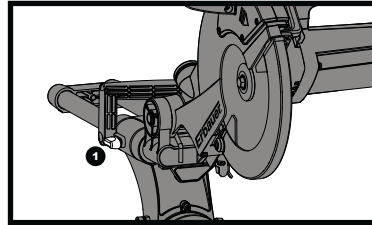

Fig 11
- 2) The slide carriage should be locked in position by tightening the slide carriage lock knob (1). (See fig. 11)
- 3) Allow the cutting head to rise to the upright position. (See fig. 11)